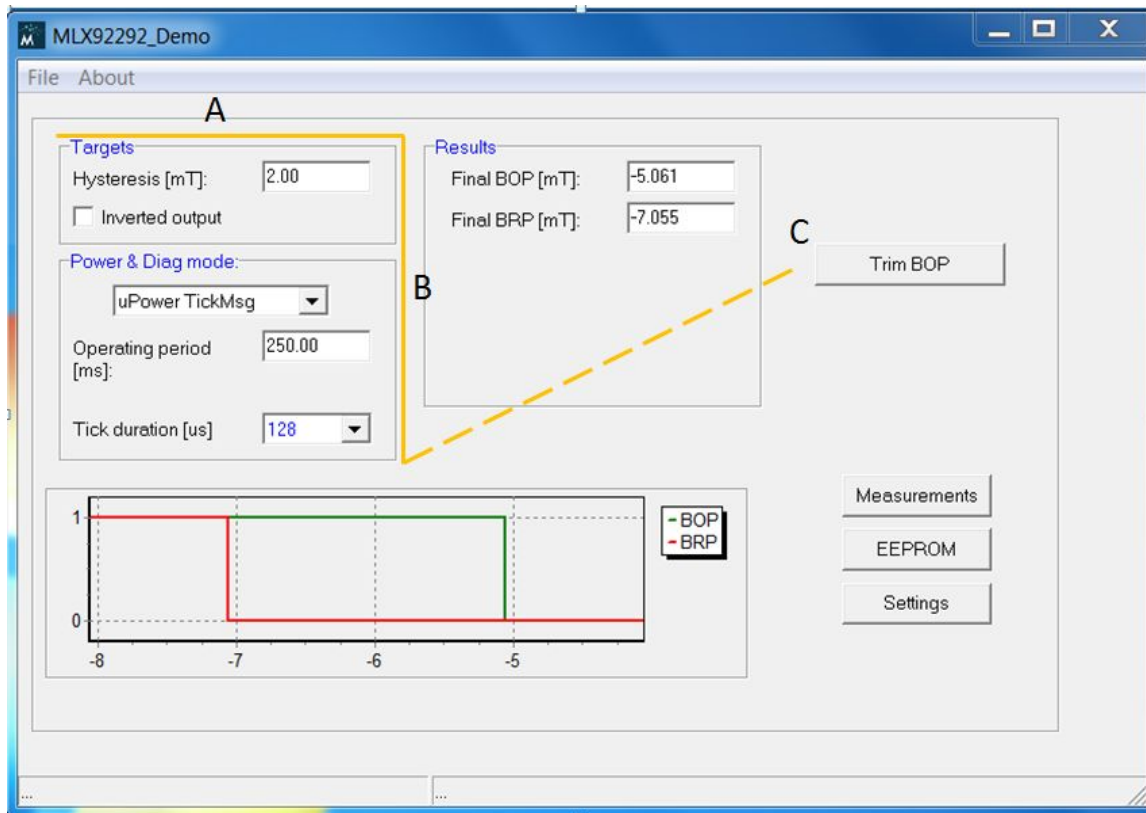
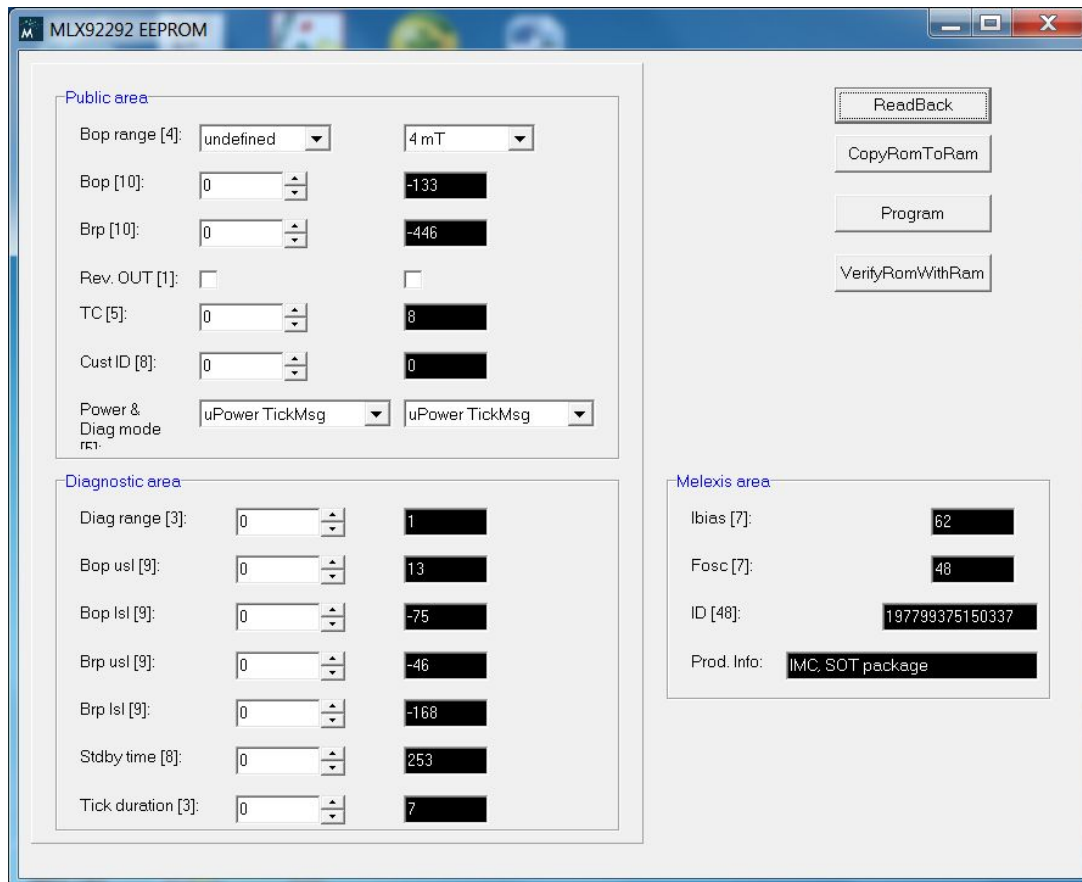

Figure 8 - Solver flow overview
Figure 12 - MLX92292 EEPROM window
- **Trimming BOP (C)**
- Press 'Trim Bop' button on the UI. The solvers measures BOP and calculates BRP based on the programmed hysteresis value. For example, in figure 8 the measured BOP was equal to -5.061mT. Therefore, BRP is determined as BOP - programmed hysteresis (2 mT in this case), resulting in -7.055mT.
- The red and green graphs at the bottom of figure 8 indicate the output behavior.
MLX92292 features several diagnostic modes. Each of these modes can be selected in MLX92292_Demo UI -> Power & Diag mode -> Drop down list just above the **operating period** box (see figure 8).
The EVB922xx UI 'Measurements' option can be accessed by clicking on the "Measurements" button (figure 8).
The EEPROM content of the e.g. MLX92292 can be analyzed and re-programmed through the "EEPROM" window on the MLX92292_Demo UI (accessible by clicking on the EEPROM button shown in figure 8). The EEPROM window is shown in figure 12.